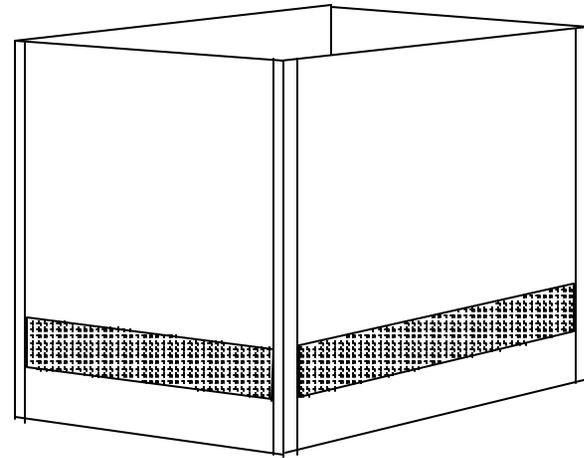

Fig. 2
- B.) Continue securing panels together until box is completely assembled. (Fig. 2)